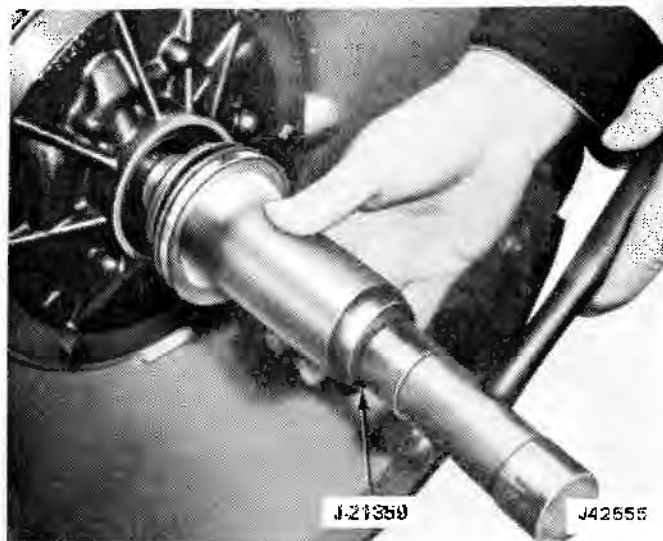

Fig. 7-125 Installing Pump Seal
- (1) Guide pins can be fabricated by grinding heads from two valve body bolts.
- (2) Install guide pins in two pump mounting bolt holes of transmission case.
- (3) Position oil pump gasket to pump face of transmission case.
- (4) Apply petrolatum to hold gasket in place.
- (5) Install pump assembly in transmission case and fasten with all but one pump attaching bolt and washer; bolt and washer should be omitted from either 5 or 10 o'clock position. Tighten bolts to 20 to 25 foot-pounds.
- (6) If necessary to install a new front seal, use a non-hardening sealer on outside of seal body and using Seal Driver J-21359, drive seal in place, as shown in figure 7-125.